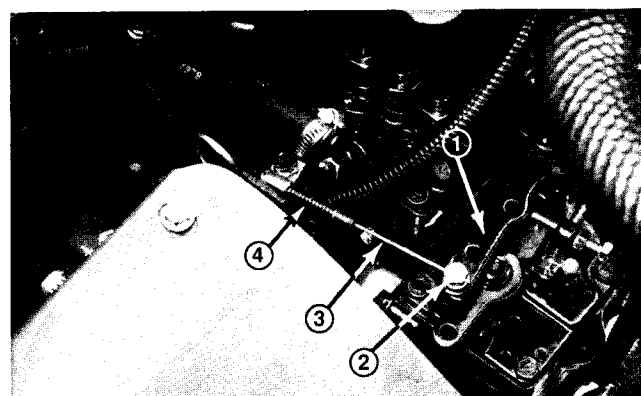

Figure 14
1. Loosen the capscrew and nut securing the throttle cable to the governor lever (Fig. 14)